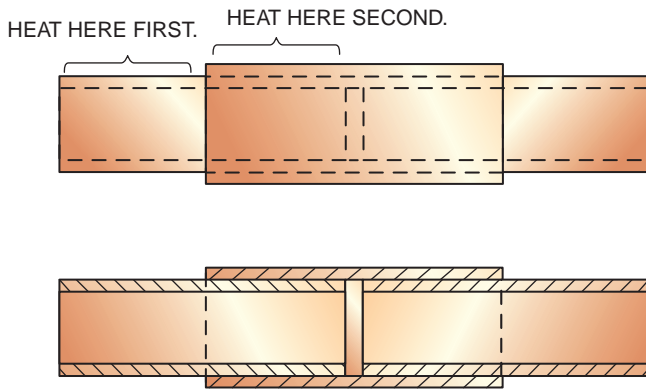

FIGURE 5-51 5G horizontal fixed position.
1. Mount the pipe in a horizontal position, **Figure 5-51**.